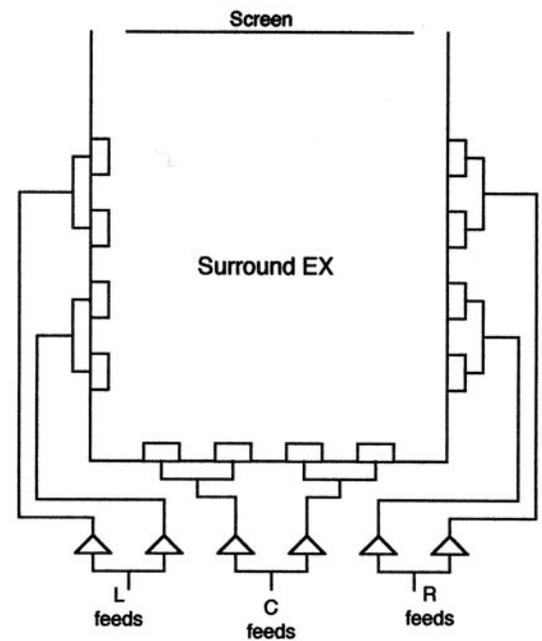

Figure 44: Surround channels, Surround EX wiring.
- When possible, specify surrounds in a quantity divisible by 6 (12, 18 or 24) in order to ensure optimum load paralleling. (See Figure 44)